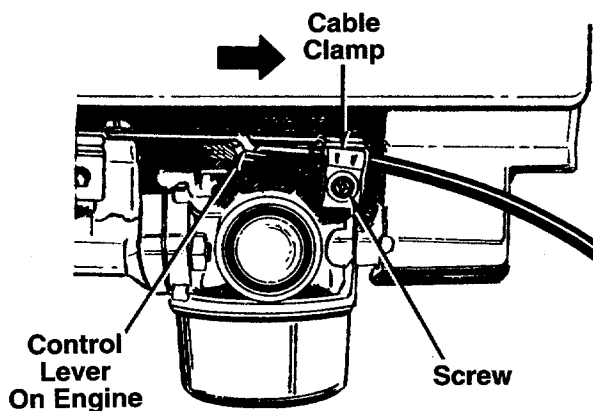

FIGURE 9B.—Tecumseh Engines
**NOTE:** If you have a Tecumseh engine, simply loosen the screw shown in figure 9B so the cable will move freely beneath the clamp. It is not necessary to remove the screw and clamp completely.